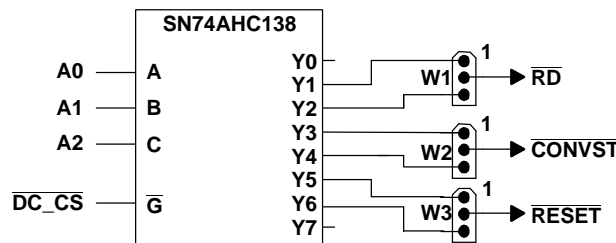

Figure 2. Decoding Control Signals Using the Address Bus
For the software engineer the ADS7881EVM/ADS7891EVM provides a simple platform for interfacing to the converter. The EVM provides standard 0.1" headers and sockets to wire into prototype boards. The user need only provide in 3 address lines (A2, A1, A0) and address valid line(DC_CS) to connector P2, as shown in Figure 2. To choose which address combinations will generate RD, CONVST, and RESET set jumpers as shown in Table 4. Recall chip select (CS) signal is not memory mapped or tied to P2, therefore it must be controlled via general purpose pin or shorted to ground at J3 pin 1. If address decoding is not required, the EVM provides direct access to converter data bus via P3 and control via J3.